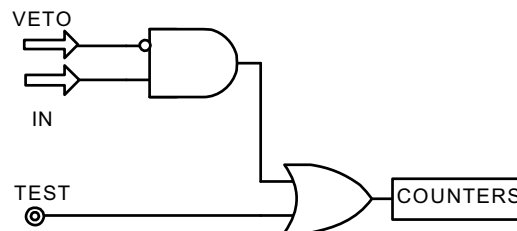

Fig. 4.1 Control inputs logic
N.B: If one channel logic status is "1", an eventual TEST pulse is neglected by the counters (see Fig. 4.1). Moreover, in the V820 / V830 LA / LC (LVDS inputs), if no input signal is present (i.e. the channels are disconnected), the TEST pulses are counted only if VETO is active, since in this case (no signal) the LVDS logic status is "1".